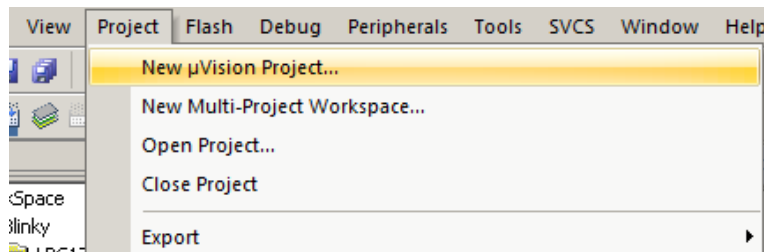

Figure 5.1: Keil IDE: Create a New Project
- Project → New μ Vision Project (See Figure 5.1)